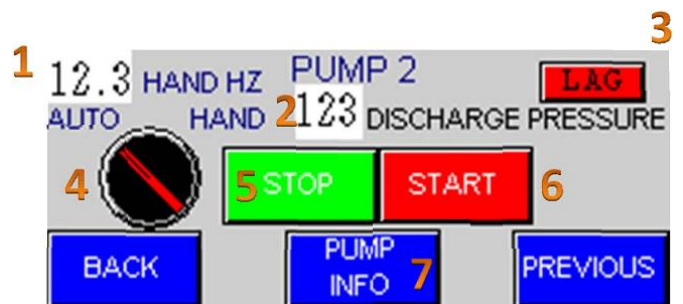

Figure 7. Pump 2 Menu Screen
3. **Pump 2 Status Indicator.** Displays the status of pump 2 (Running, Standby, Stopped or Faulted), Figure 7.
2. **Pump2 Menu.** Jumps to "Pump 2 Menu", Figure 7.